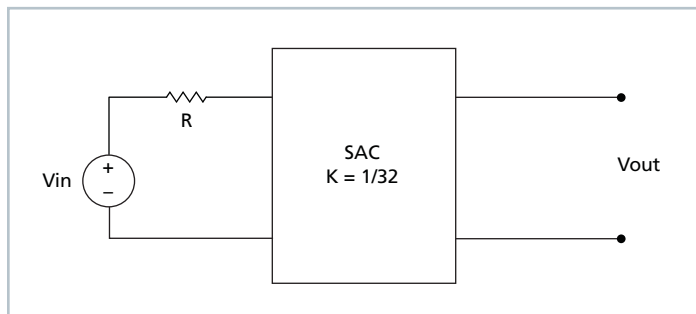

Figure 2 — K = 1/32 Sine Amplitude Converter™ with series input resistor
The use of DC voltage transformation provides additional interesting attributes. Assuming for the moment that ROUT = 0 Ω and Iq = 0 A, Eq. (3) now becomes Eq. (1) and is essentially load independent. A resistor R is now placed in series with VIN as shown in Figure 2.
Assuming that R = 1 Ω, the effective R as seen from the secondary side is 0.98 mΩ, with K = 1/32 as shown in Figure 2.